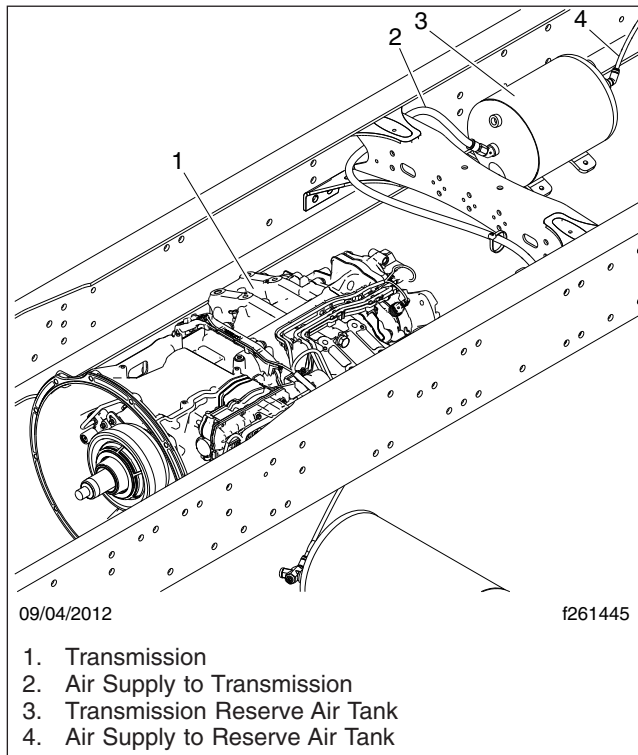

Fig. 4, Isolated Transmission Reserve Air Tank (typical installation)
2. Drain the main air system and the isolated transmission reserve air tank. See Fig. 4.